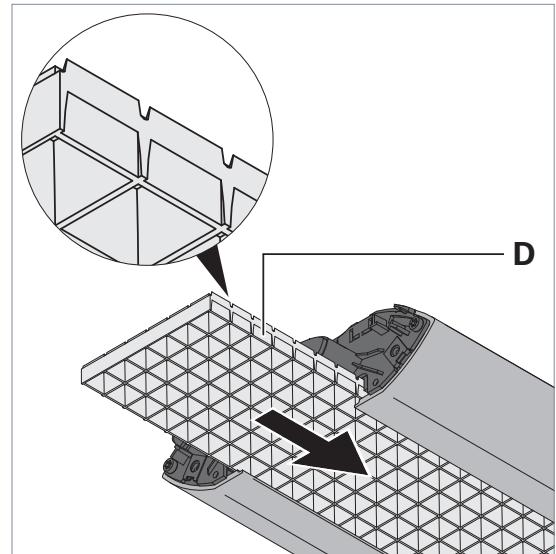

Fig. 19: Sliding in the parabolic grid.
- If the luminaire is equipped with a parabolic grid **D**: Slide the parabolic grid again into the luminaire such that the thin ligaments of the grid point into the direction of the light exit, see Fig. 19.